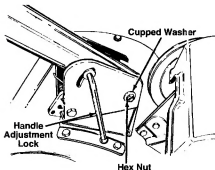

FIGURE 3.
5. Secure bottom of handle by placing cupped washer (cupped side against the pivot bracket) and hex nut on hex bolt. Do not tighten at this time. See figure 3.
6. Line up holes in handle with slots in handle pivot bracket. Insert handle adjustment lock through handle pivot bracket and handle assembly. See figure 3. Thread end of handle adjustment crank into the flange nut.